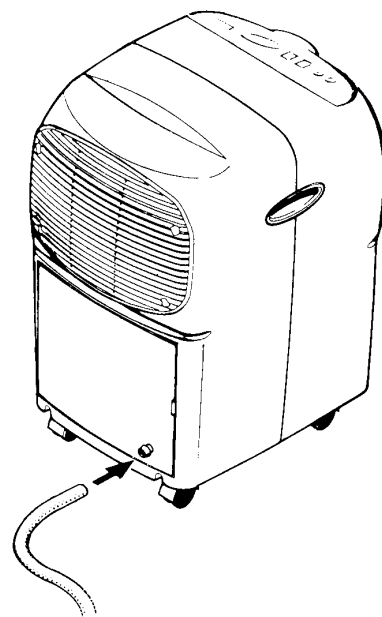

Fig. 3
4. The point where the hole should be made to pass the condensation tube is marked on the door of the appliance (fig. 3).